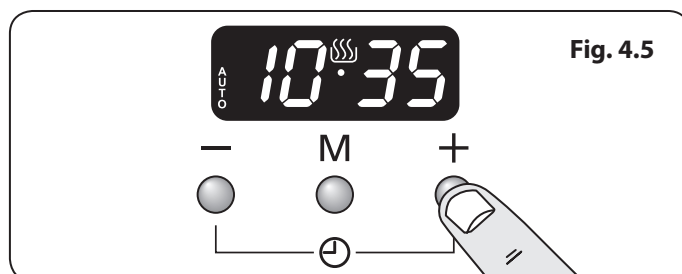

Fig. 4.5
2. Select the 'stop time' using the [+] or [-] buttons. The display will show the current time along with the 'AUTO' and Cooking [🔥] symbols (**Fig. 4.5**).